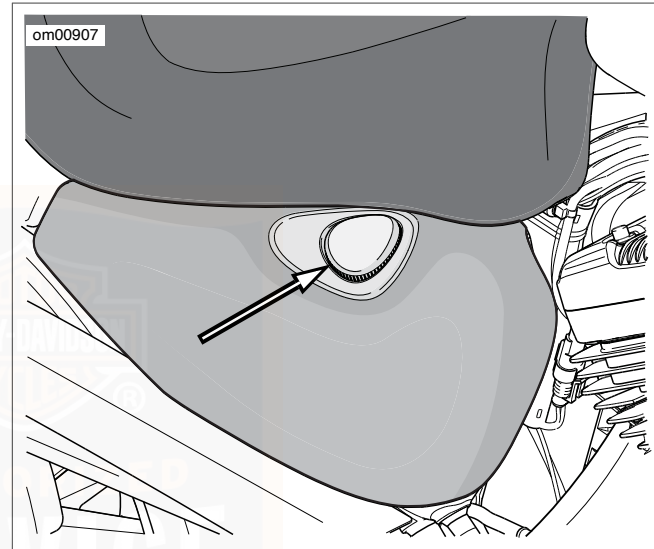

Figure 38. Filler Cap Location
2. See Figure 38. Remove the filler cap from the oil tank.